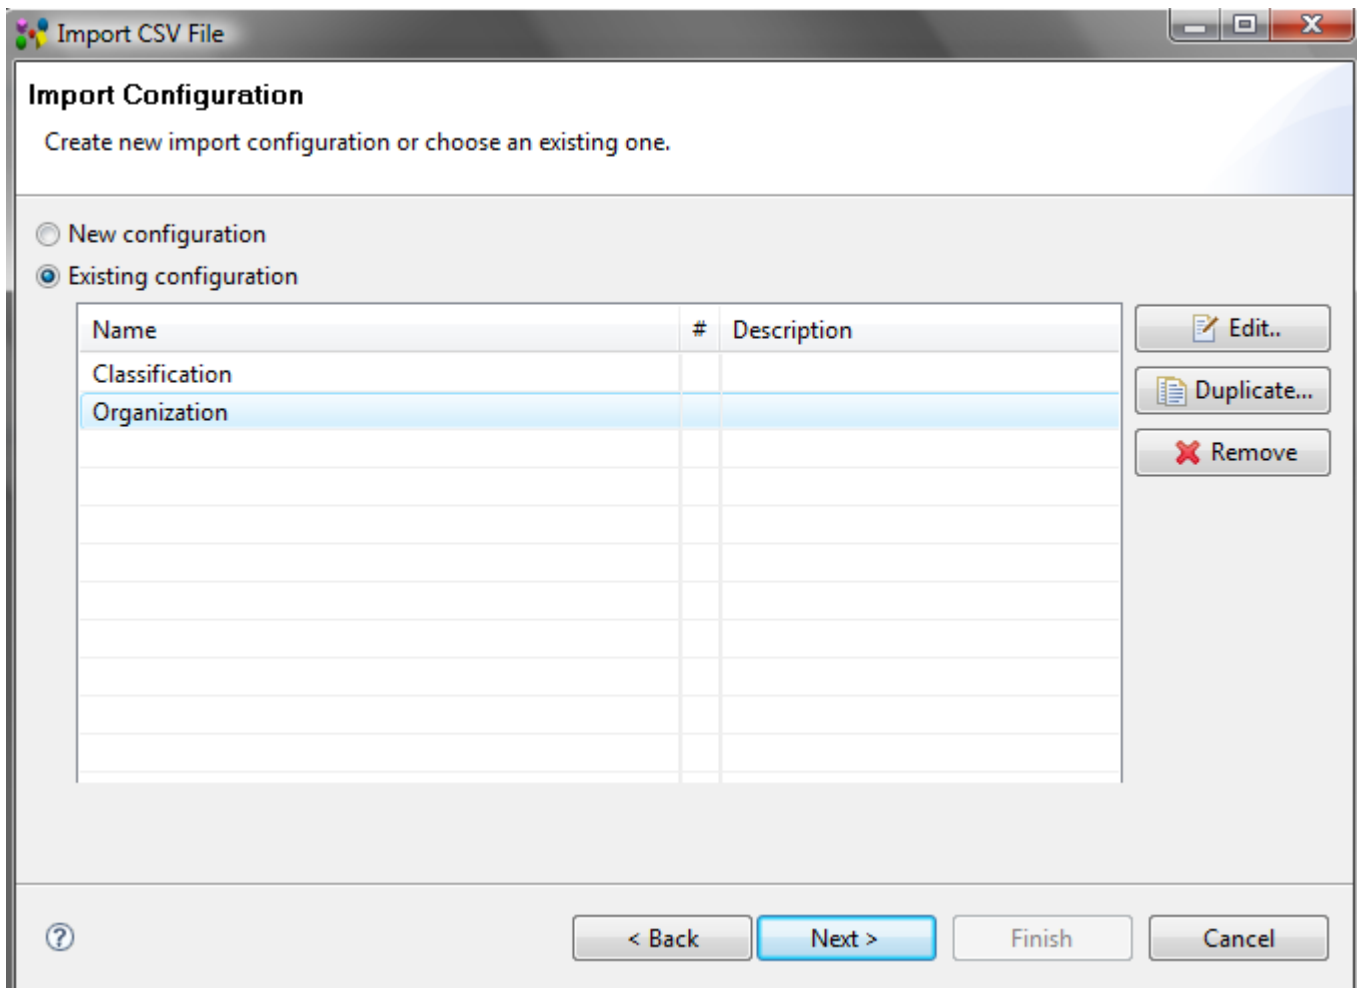

Figure 3. Import CSV file wizard page to define import configuration
- Press **Next** button to follow to the next wizard page (see Figure 3).